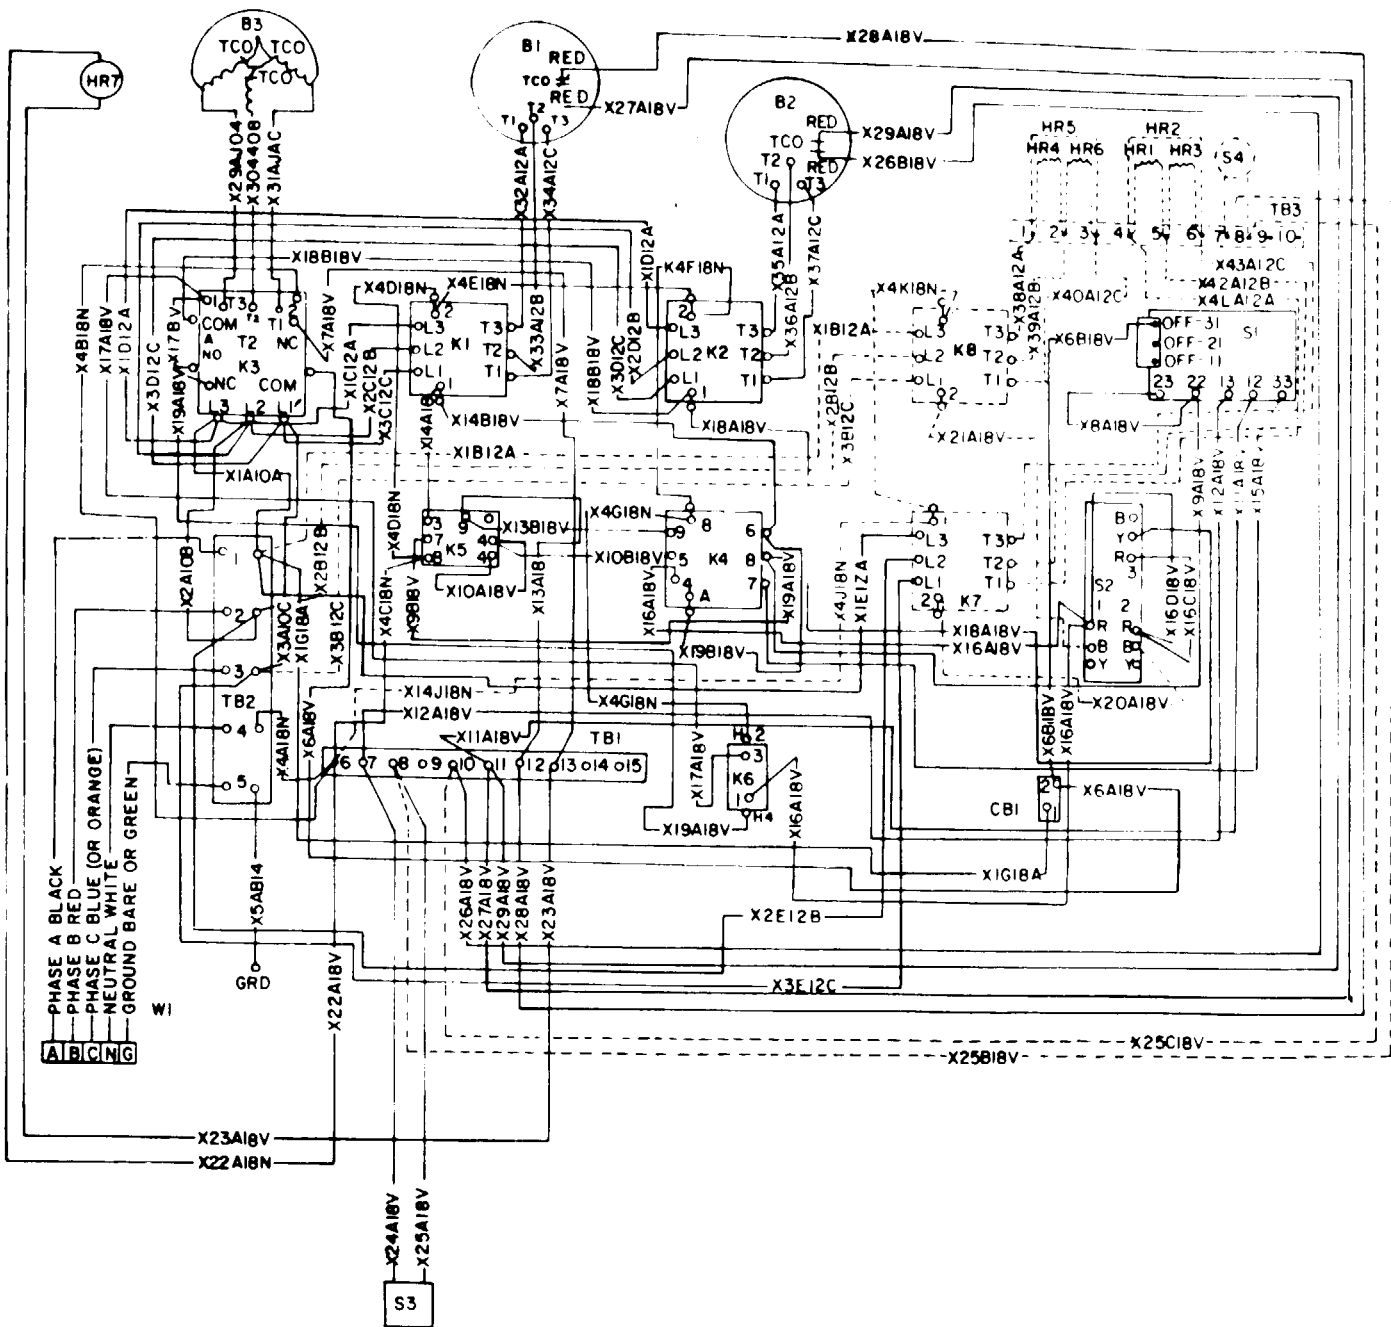

Figure 1-5. Air Conditioner Electrical Schematic Diagram
i. ELECTRICAL CONTROL SYSTEM. Figure 1-5 is reference for the following discussion of the air conditioner electrical control system.
(1) OPERATING MODES. Switch S1 allows selection of two operating modes: ventilate and automatic. In the ventilate mode, air is circulated without cooling or heating; in the automatic mode, the thermostat controls the temperature of the output air.
(2) VENTILATE MODE. With S 1 in the VENTILATE position, only the evaporator fan motor operates. The startup and operating sequence is as follows:
(5) TEMPERATURE OVERLAP. With 2-1/2 °F separating stage 2 switch on and stage 3 switch on, each having a 3° differential, the low end of stage 2 overlaps the high end of stage 3 by 1/2°, avoiding a “dead space” in the controlled temperature range.
j. AIR CONDITIONER SAFETY CONTROLS. Table 1-1 lists the air conditioner safety controls, describes their location in the air conditioner and references applicable maintenance procedures. As illustrated in figure 1-5, all safety controls are series connected in the circuit of control relay K4. Actuation of any safety control opens the circuit and de-energizes the air conditioner.